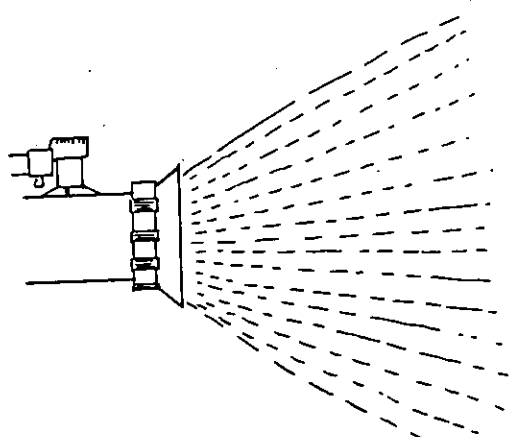

Figure 13
- Push collar back to collar nut to obtain a wide spray as shown in figure 13.